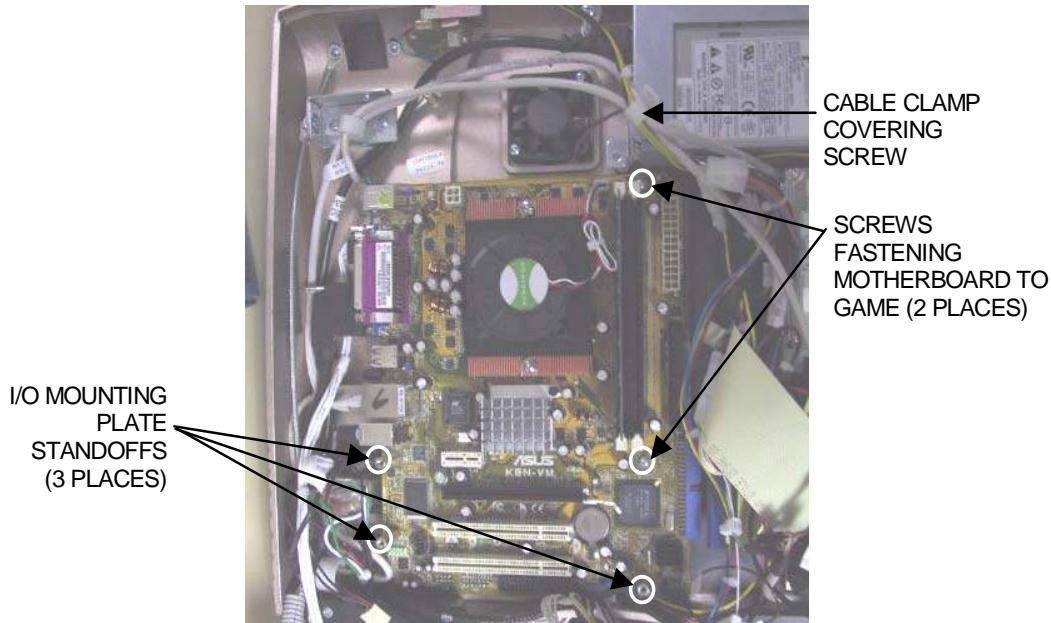

FIGURE 7 - ASUS MOTHERBOARD ASSEMBLY (3 STANDOFFS & 2 SCREWS)
6. If your I/O mounting plate was secured by 3 screws: Remove the screw securing the cable clamp to the power supply bracket. Remove the 2 screws securing the motherboard assembly to the game, located on the right side of the motherboard (Figure 7).
8. Disconnect all connections to the motherboard, taking note of their positions so you can reconnect them to the new board. Carefully remove the motherboard, as well as the 3 or 4 standoffs and hex nuts that were supporting the I/O mounting plate. See Figures 7 and 8. Place the motherboard into an anti-static bag for storage. **NOTE: Be sure to read the Motherboard Handling Precautions before handling the board.**